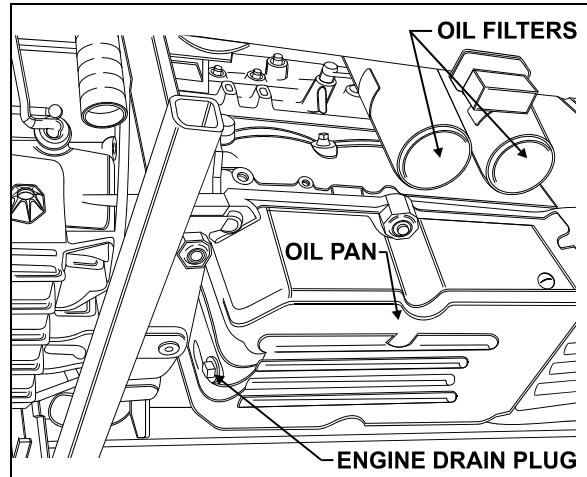

FIGURE 14: ENGINE DRAIN PLUG AND OIL FILTERS 01029
1. From under the vehicle, remove the engine drain plug on the oil pan. Allow oil to drain (Fig. 14).